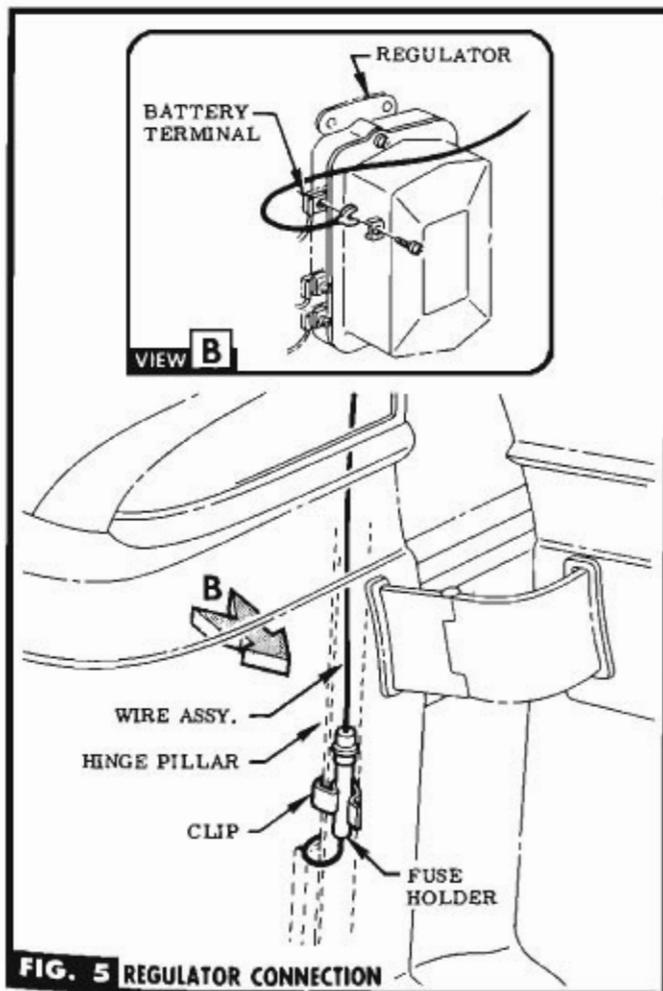

FIG. 5 REGULATOR CONNECTION
STEP 7a PLACE CLIP ON L. H. REINFORCEMENT EXTENSION & ROUTE WIRES THRU CLIP LOOP & TAPE ANY EXCESS WHITE WIRE. SEE FIG. 5.
STEP 11 ROUTE TERMINAL END OF WIRE ASSY. TO FRONT OF REGULATOR, CLIP FUSE HOLDER TO HINGE PILLAR & CONNECT WIRE TO BATTERY TERMINAL ON REGULATOR. SEE FIG. 5 & VIEW B.